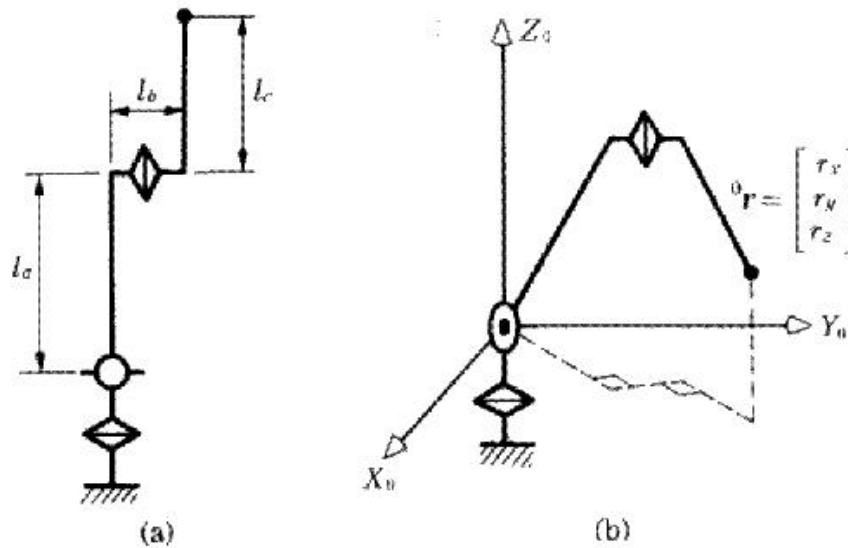

Figure 2: (a) Manipulator sizing. (b) Position of the manipulator endpoint.
**Task 3.2 (4 points) DH-Parameters:** Figures 2 and 3 show a manipulator with three degrees of freedom. The position of the manipulator endpoint is specified by the vector